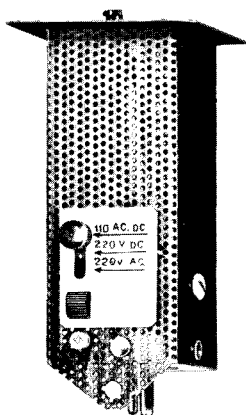

Figure 5.—Ballast Tube Switch Positions.
2. Move the switch on the ballast tube to either 110 volts AC-DC, 220 volts DC or 220 volts AC position to conform to the type current on which the set is to be operated. (See Figure 5.)